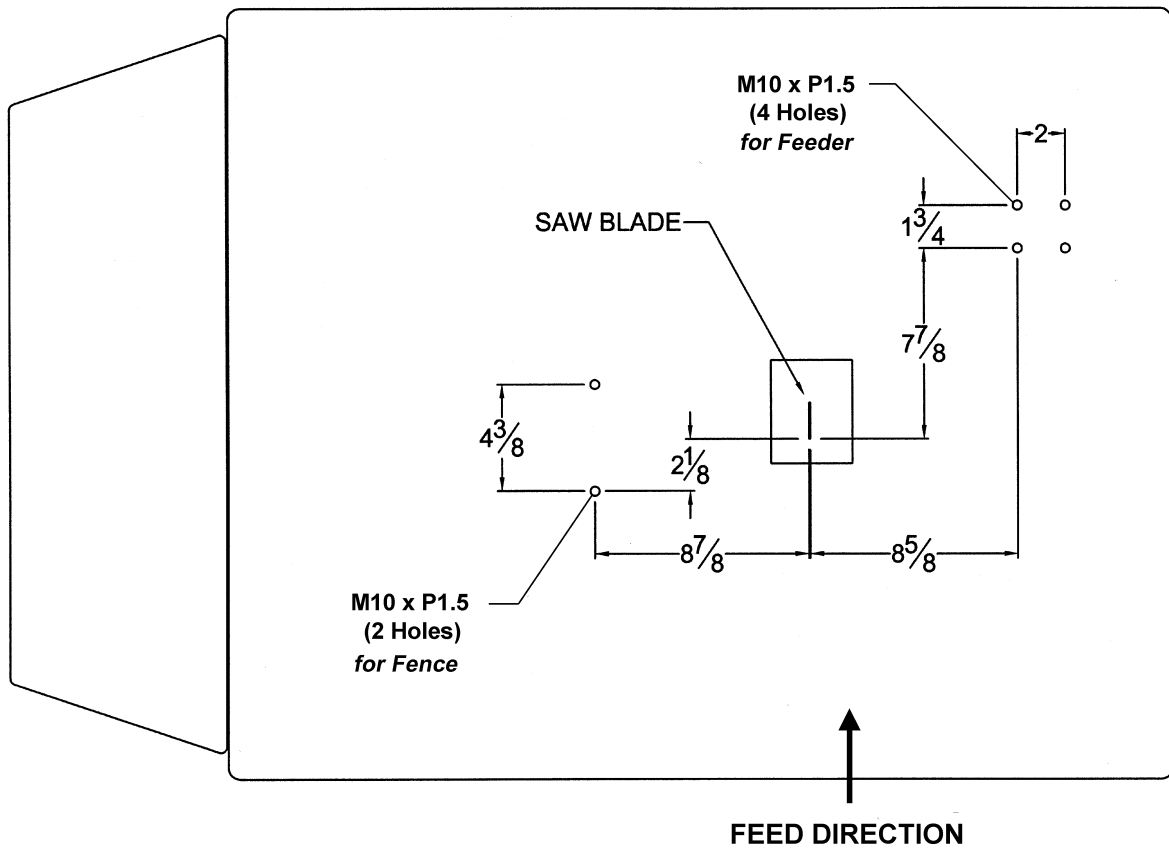
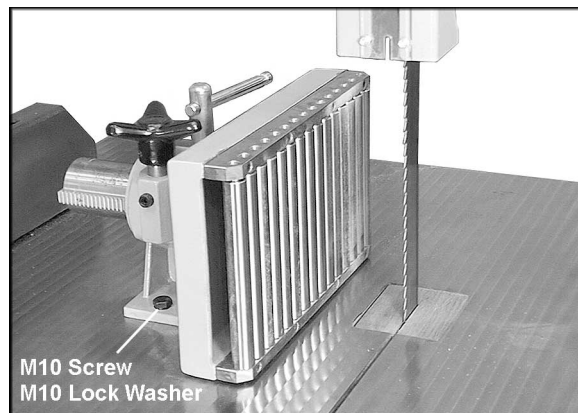

Figure 1
Figure 2
Use the diagram in Figure 1 (page 8) to identify the proper location for marking the hole patterns on the band saw table. Do not drill and tap the holes yet, only mark them.
1. The fence **must** be parallel with the blade for accurate cuts as well as for safety. To achieve this, mark the location of the near hole for the Fence based on the dimensions in Figure 1, page 8. Drill and tap the near hole then place the fence over the hole pattern. Insert an M10 x 30 hex cap screw with lock washer into the near hole, as shown in Figure 2. With a 17mm wrench, make the screw snug. Do not tighten completely.